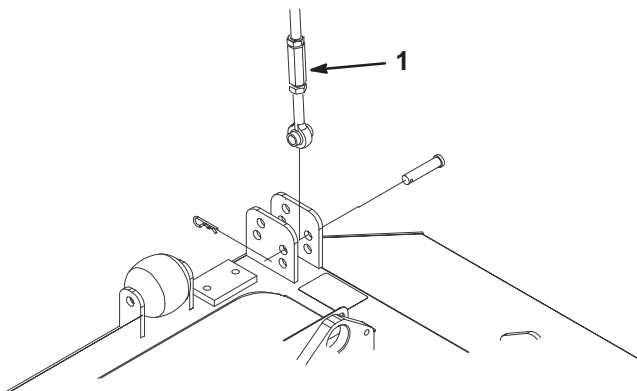

Figure 1
2. Remove hairpin cotter and clevis pin securing height of cut link to height of cut bracket on deck (Fig. 1).